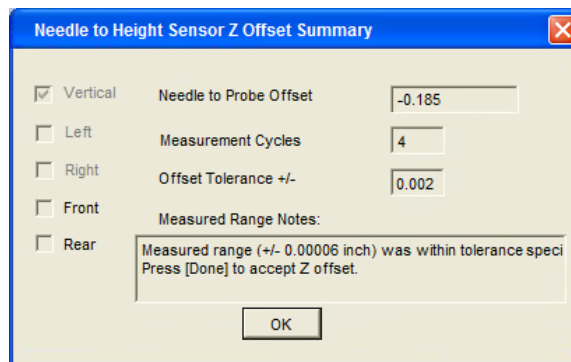

Figure 4-10 Needle to Height Sensor Z Offset Summary
- The Z Offset Summary will appear (Figure 4-10).